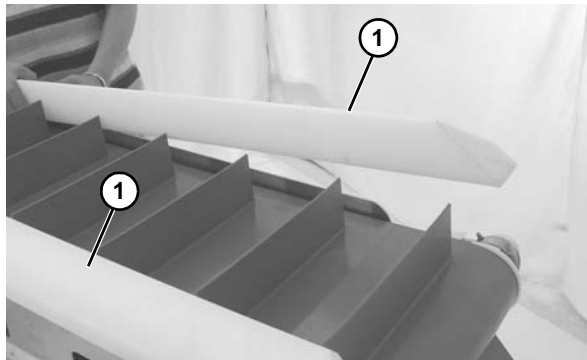

Figure 44
2. Remove the guides (**Figure 44, item 1**).